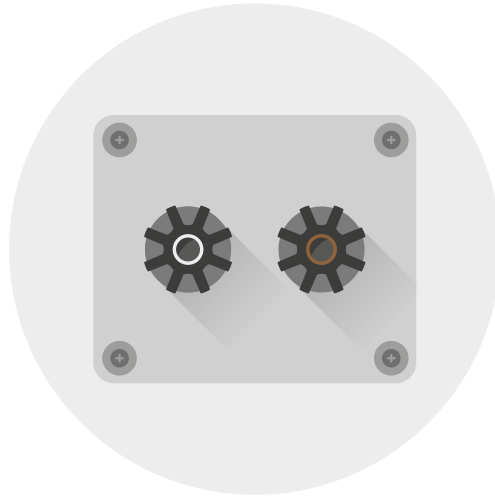

Fig. 1 - Binding posts at rear of cabinet (example).
1. Connect a two-pole (+/-) loudspeaker cable to the binding posts, located at rear of the cabinet (see Fig. 1). The high quality, gold-plated binding posts can accommodate different connection systems: